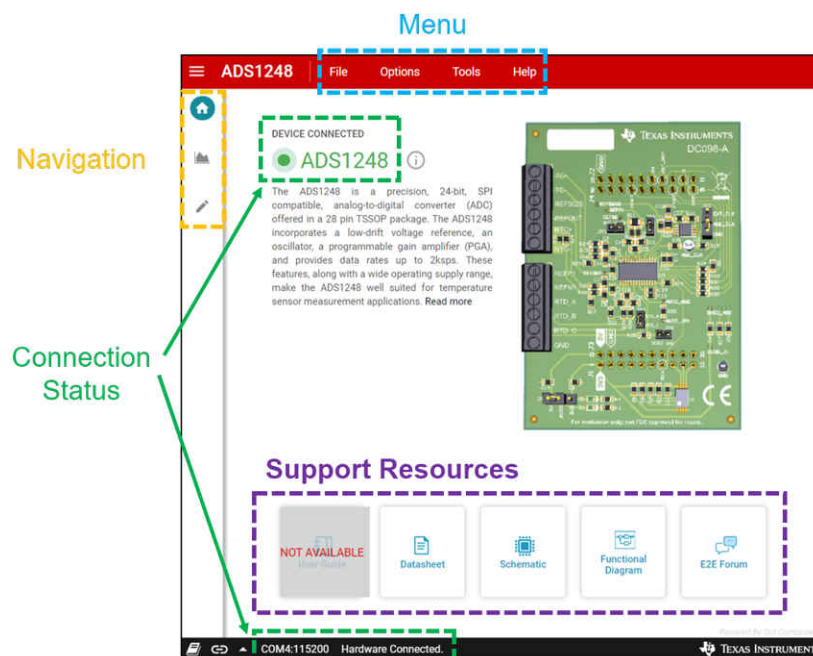

Figure 4-2. ADS1x48EVM GUI Home Page
3. Refresh the GUI such that a green signal displays and the *Hardware Connected* indicator shows in the bottom status ribbon (see Figure 4-2).
The *Home* page is the GUI start-up landing page. The *Home* page provides a high-level overview of the ADS1x48 including a device description and a 3D view of the EVM PCB. Highlighted in orange in the upper-left corner of Figure 4-2 is a vertical *Navigation* bar for the various GUI pages, including:
The horizontal *Menu* bar at the top of the GUI shows the following menu options, which are highlighted in blue in Figure 4-2 and are discussed in more detail in Section 4.1.1:
Quick links to *Support Resources* are shown at the bottom of the *Home* page. These links are highlighted in purple in Figure 4-2 and include the EVM user's guide, schematic, and ADC data sheet. Finally, a successfully connected EVM displays as *Device Connected* in the top left and as *Hardware Connected* in the status ribbon. Both of these indicators are highlighted in green in Figure 4-2.